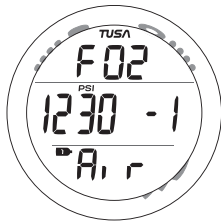

Fig. 92 - GAS/TRT 1
**Gas/TRT 1 Switch Preview**, information includes (Fig. 92) -